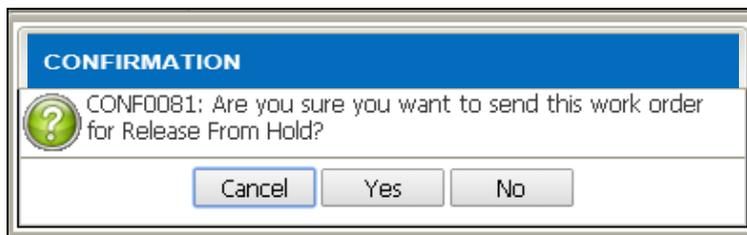

Figure 3.2-6 Alert Message Confirmation
- Alert message will be displayed as shown in Figure 3.2-6 & Figure 3.2-7.